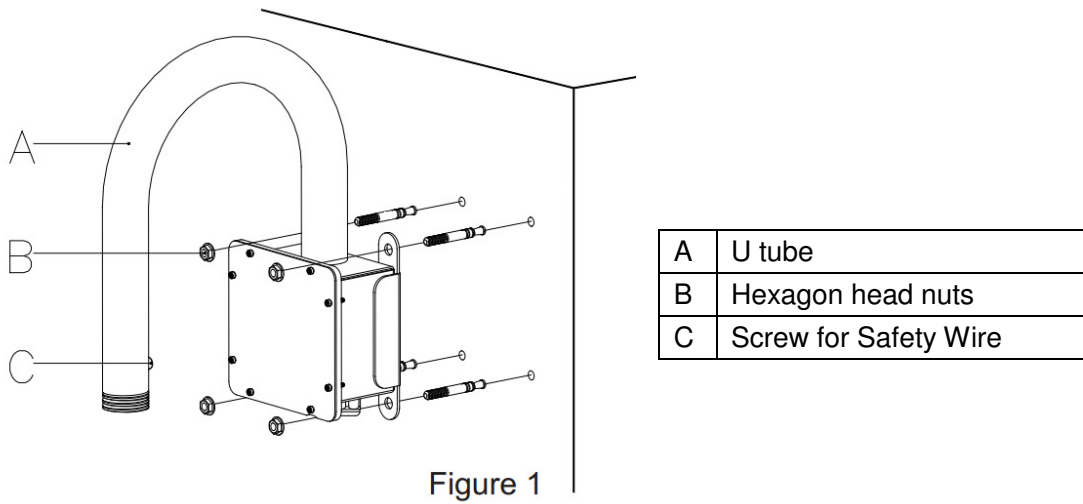

Figure 1
- B) Hammer 4 anchor bolts(not supplied) into the holes and secure them. (1) of Figure 1
- C) Secure the connector ring of the accessory to this bracket in the clockwise direction. (2) of Figure 1
- D) Secure the safety wire to the screw hole on the back side of bracket. You need to fix the wire with appropriate M4 screw and washer (not supplied). (3) of Figure 1
- E) Remove the original connector ring of the camera, and thread the cabling of the camera through the short aluminum tube and push the cables out to the wall. (4) of Figure 1
- F) Secure this bracket to the wall with hex nuts and wrench (not supplied). (5) of Figure 1
- B) Hammer 4 anchor bolts (not supplied) into the holes and secure them. (Figure 1)
- G) Secure the safety wire to position C in Figure 1 with supplied screw. And return the lid to original position and secure the screws of the lid with a supplied torx wrench. (Figure 4)